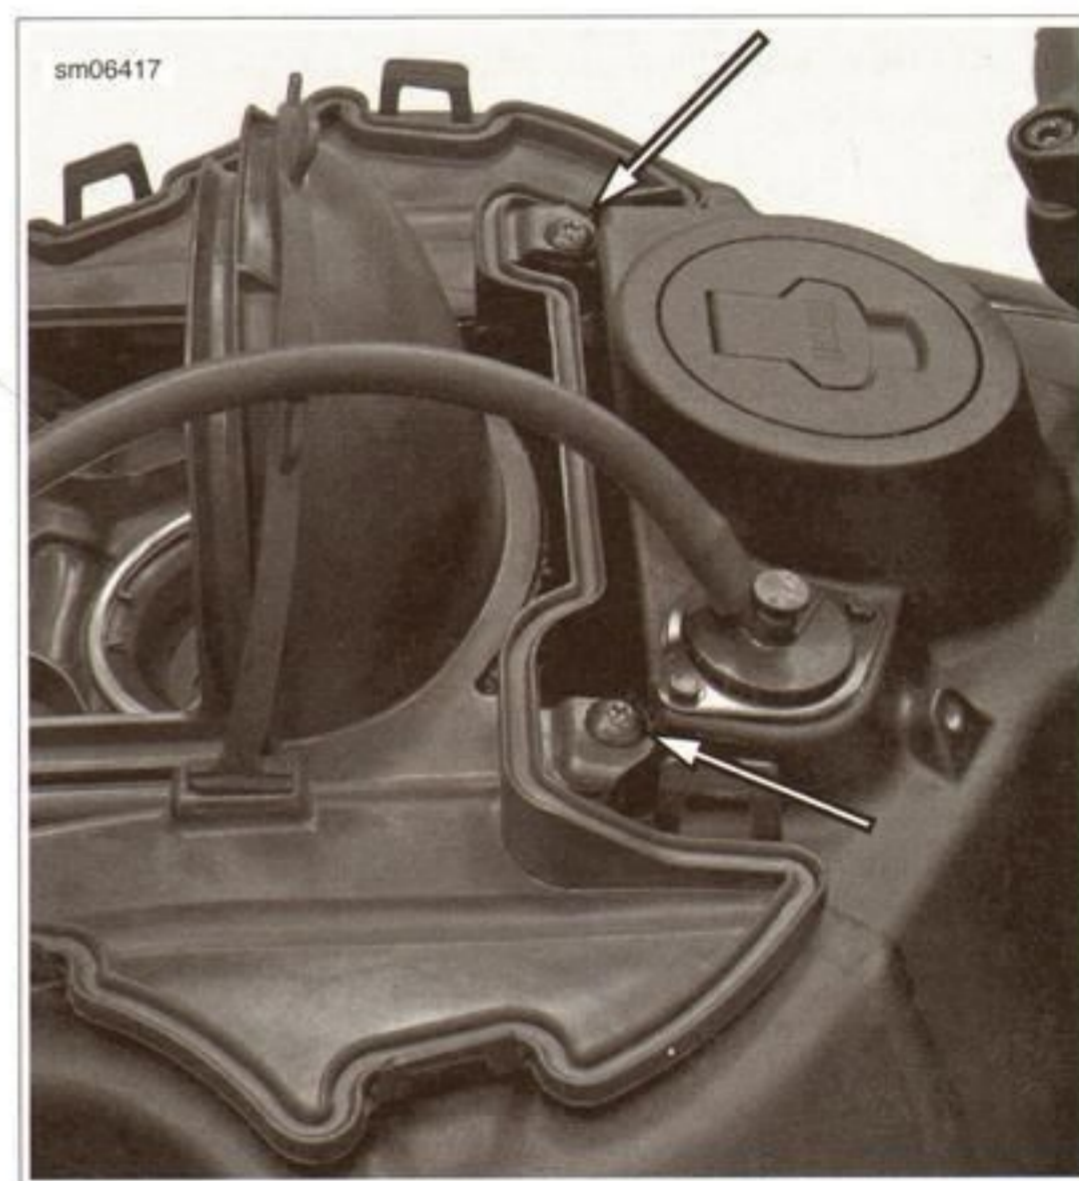

Figure 4-3. Baseplate Fasteners
6. See Figure 4-3. Remove the baseplate fasteners.